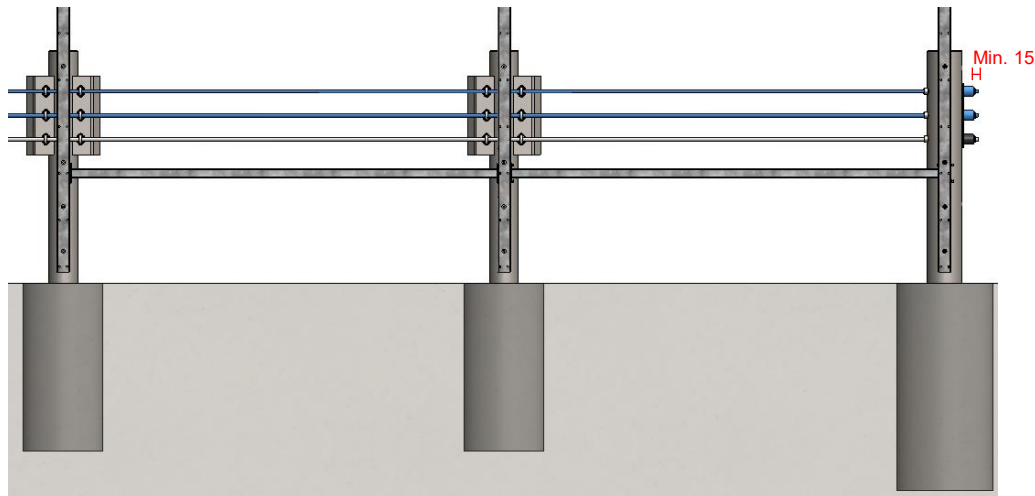

Figure 15
- Cut Off Cable Ends with Min. 15mm Excess after each anchorage tool on the Terminal End Post. Use an Angle Grinder to Trim Cable Ends (Fig. 15)